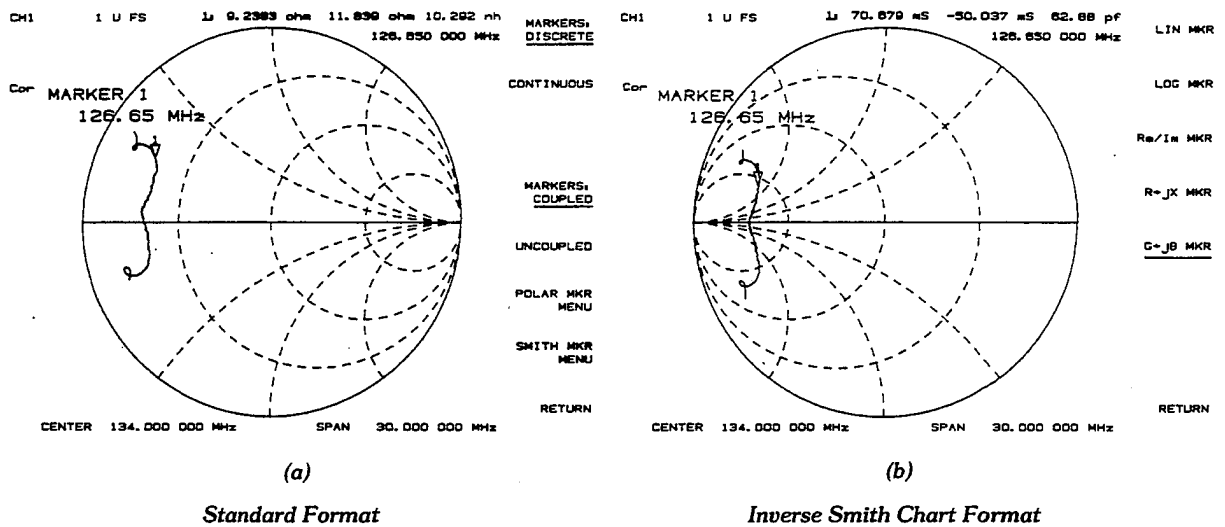

Figure 7-12. Standard and Inverse Smith Chart Formats
**[SMITH CHART]** (SMIC) displays a Smith chart format (Figure 7-12). This is used in reflection measurements to provide a readout of the data in terms of impedance. The intersecting dotted lines on the Smith chart represent constant resistance and constant reactance values, normalized to the characteristic impedance,  $Z_0$ , of the system. Reactance values in the upper half of the Smith chart circle are positive (inductive) reactance, and in the lower half of the circle are negative (capacitive) reactance. The default marker readout is in units of resistance and reactance ( $R + jX$ ). Additional marker types are available in the Smith marker menu (refer to "Using Markers").
An inverted Smith chart format for admittance measurements (Figure 7-12) is also available. Access this by selecting **[SMITH CHART]** in the format menu, and pressing **[MKR] [MARKER MODE MENU] [SMITH MKR MENU] [G+jB MKR]**. The Smith chart is reversed and marker values are read out in units of conductance and susceptance ( $G+jB$ ).